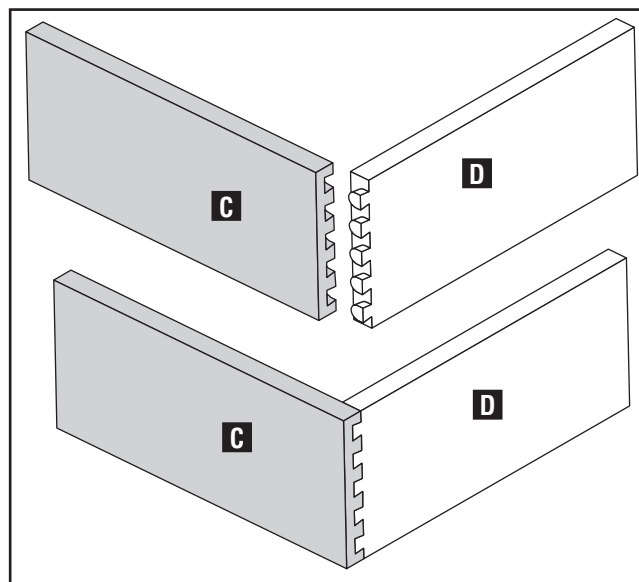

Fig. F3
When selecting boards for this joint, be sure the tail height is less than the pinboard thickness (C) Fig. F3.